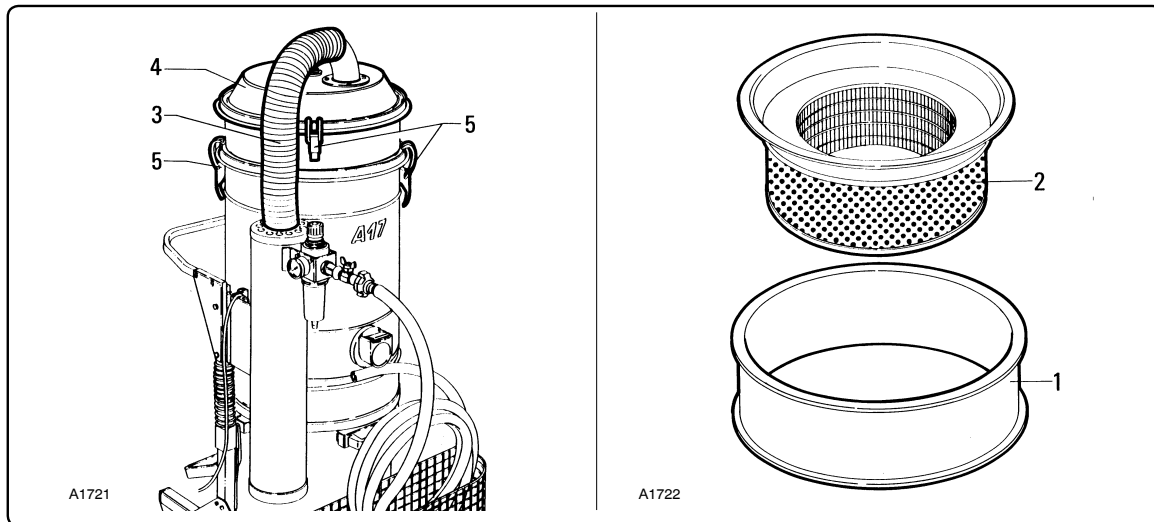

Fig. 6.8.1
This is a category C vacuum complete with an absolute filter "2" as shown in fig. 6.8.1.
6.8 - Installing absolute filter "K1" (fig. 6.8.1)
- Remove connecting pipe "3" (fig. 6.8.1);
- Connect a longer suction pipe "3" (fig. 6.8.1) than the previous one.